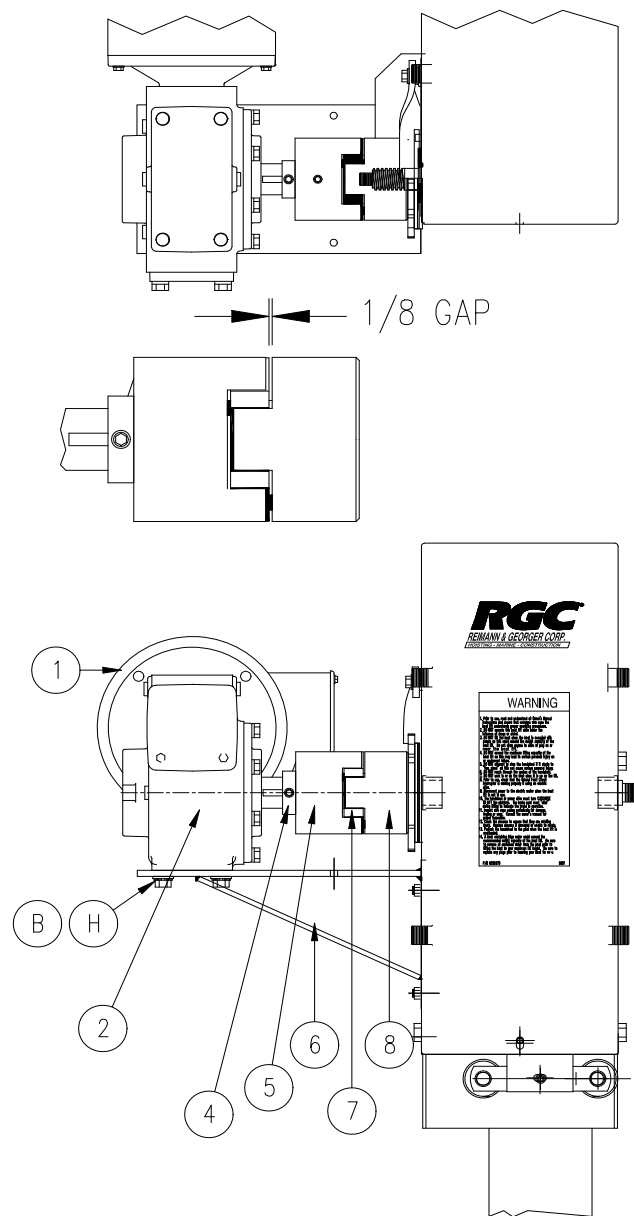

Figure 2-2
1. Refer to **Figure 2-2**, the centerline of the direct drive coupler must align with the centerline of the winch input shaft coupler. Align if necessary, by loosening the gearbox mounting bolts and positioning the gearbox as required. Re-tighten bolts.